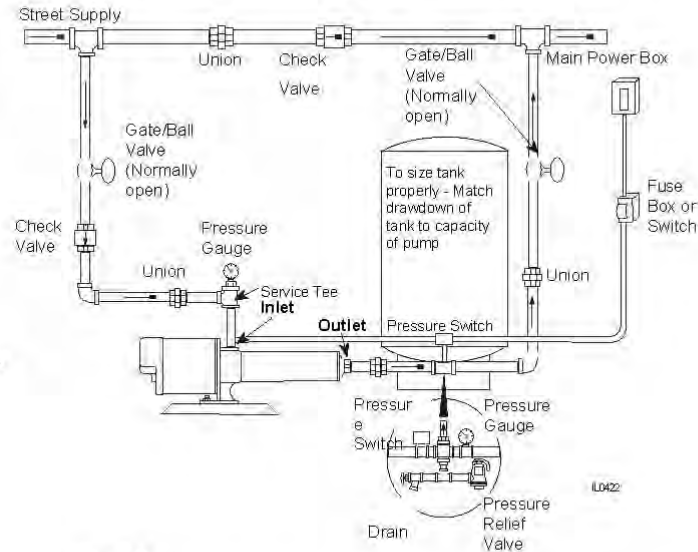

Figure 6
1. Refer to Figures 6, 7, and 8 for typical installations.
1. On pressure boost systems, locate the pump so that there will always be a positive supply of water to the pump (See Figures 6, 7 and 8).
3. Install a check valve as shown in Figure 6. Be sure check valve flow arrows point in the direction of water flow.
- 5. A pressure gauge installed in the inlet pipe close to the inlet port, (See Figure 6) will show if enough water is being supplied to the pump. See Operation Section - Priming, Pressure Boost Installations.
Priming is automatic when pump is connected to a pressure source such as a hydrant or city main (See Figures 6, 7 & 8).
- If you installed a pressure gauge at the pump inlet, a reading of 2 psi minimum should show whenever the pump is in operation (See Figures 6, 7 & 8).